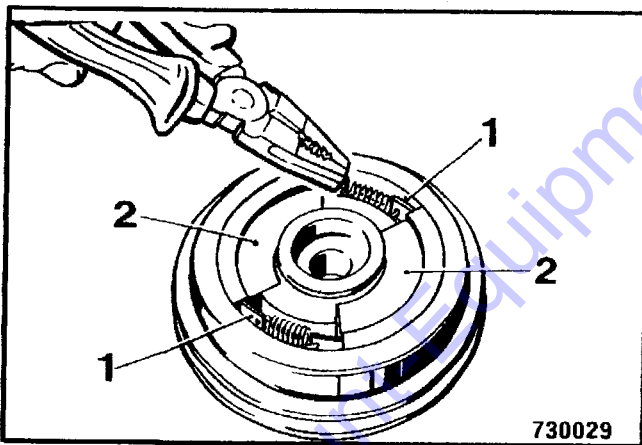

Fig. 2
- Pull the centrifugal weights 2 (Fig. 2) and lining shoes (1) out by means of a pliers.